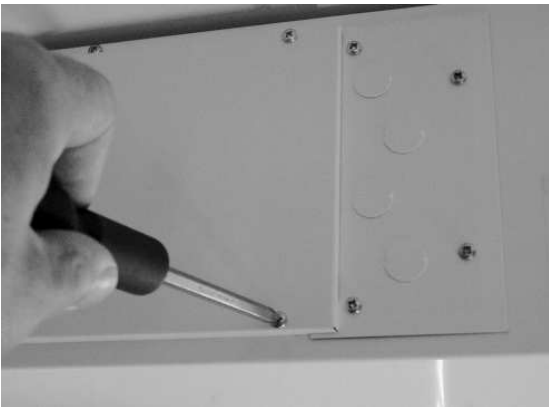

Figure 3
4. Remove the cover from the connection box as shown in Figure 3.